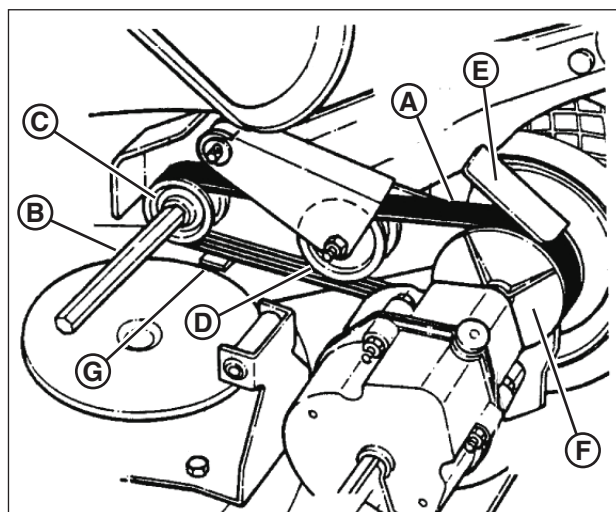

Figure 35: Poly-v belt routing
3. Place the new Poly-V Belt (**A**, **Figure 35**) over the end of the hex shaft (**B**) and onto the drive pulley (**C**).